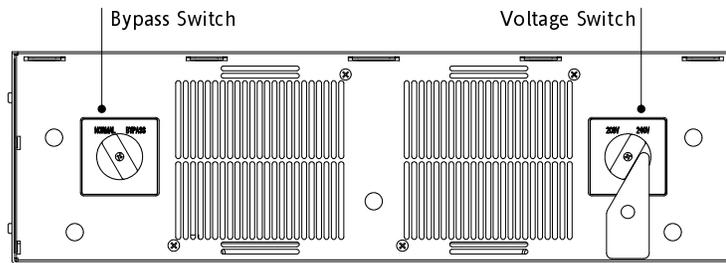

Figure 10. PDM (with Front Panel Removed)
4. Verify that the Bypass switch on the PDM is in the NORMAL position (see Figure 10).
5. **For 208V input only.** If you need 240V output with a 208V UPS input voltage, move the PDM voltage switch to the 208V position (see Figure 10).